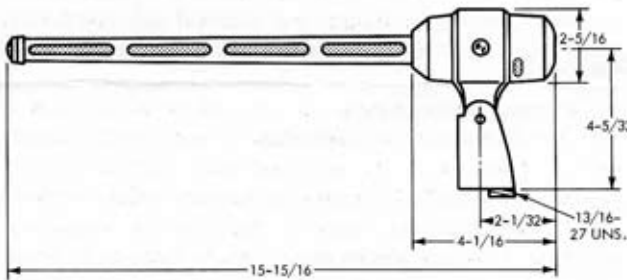

Figure 3 - Dimensions
- Dimensions: 2-5/16” max. dia., 15-15/16” long (See Figure 3)